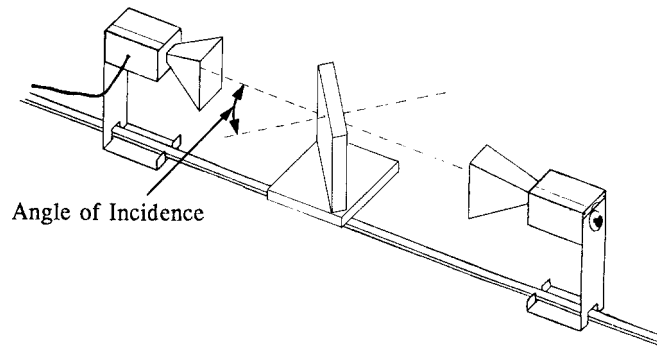

Figure 15: Equipment Setup
1. Arrange the equipment as shown in figure 15, setting both the Transmitter and the Receiver for horizontal polarization (90°).